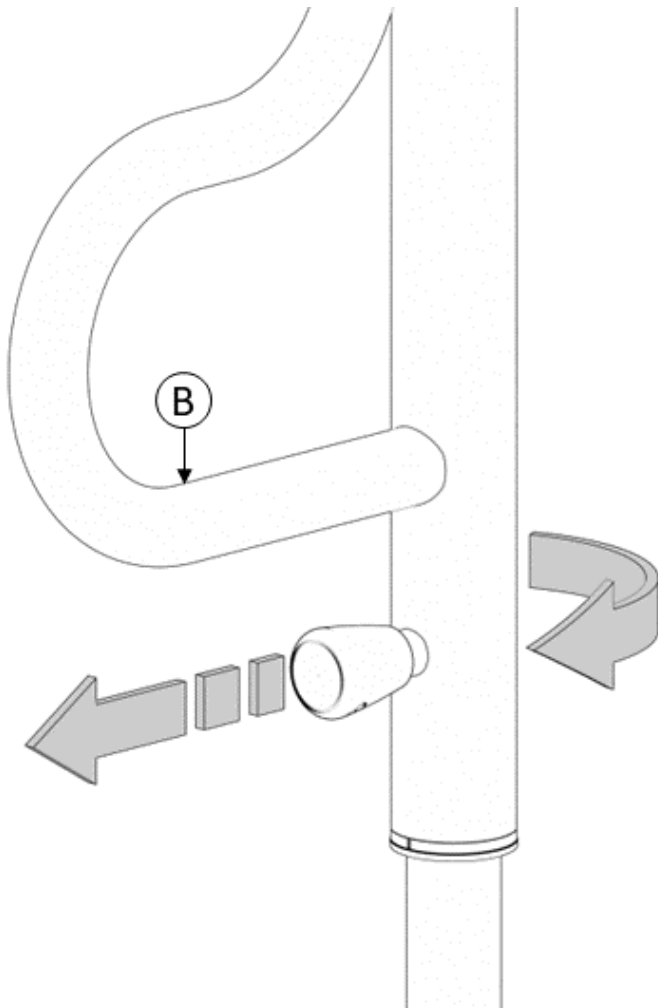

FIGURE 11
11. To rotate, pull the Spring Pin and rotate **B** to the desired location as shown in *FIGURE 11*. Release the spring pin and rotate **B** until the pin locks into place.